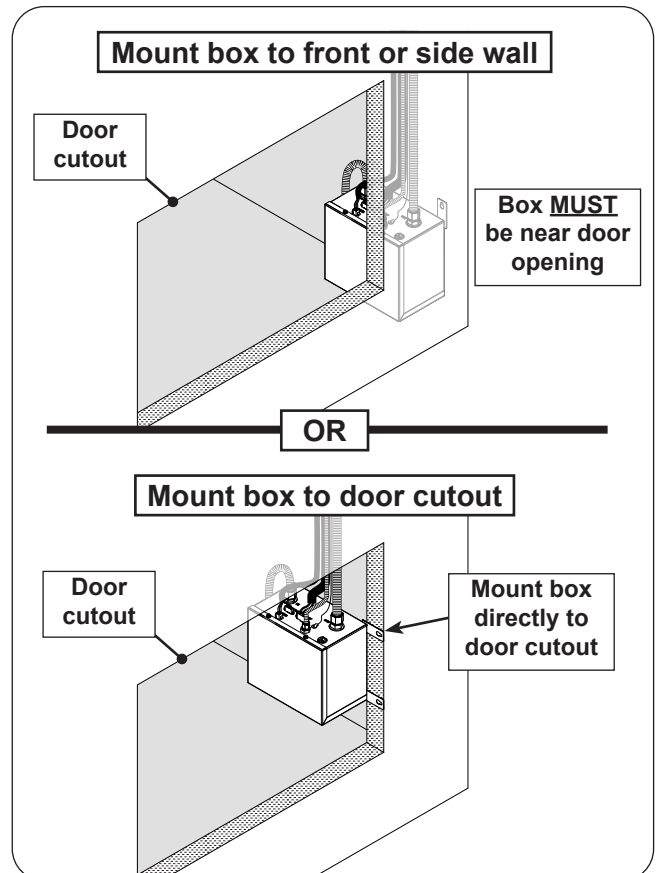

Fig. 22-2 Control box installation - mounting detail
- mounted near an access door/panel for easy access (see Fig. 22-2).